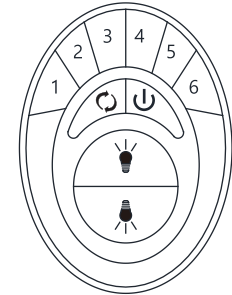

Fig. 21
Step 1. Restore power to the ceiling fan branch circuit at the circuit breaker or fuse box. Within 60 seconds of restoring power, press and hold the "⏻" button on the transmitter (Fig.21) for 5 seconds. The back light in the remote will flash twice and the fan will rotate for several seconds. This confirms that the pairing process is complete. The transmitter will now be paired to your fan and ready for use.